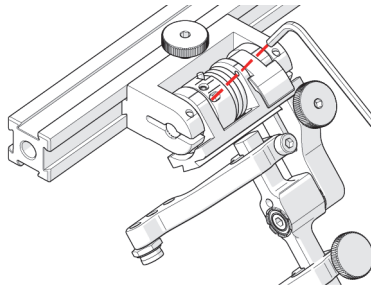

Figure 2-35 Unlatched position
2. Lift the probe holder slightly, and press the latch button (see Figure 2-35 on page 61) to release the probe holder the full 45° degrees.
3. Insert the short arm of a 3 mm hex wrench into the 3 mm slot (see Figure 2-35 on page 61)